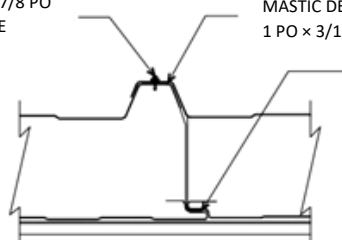

FIGURE 7
12.12 UNE FOIS LES FIXATIONS PRINCIPALES EN PLACE, LA NERVURE DE CHEVAUCHEMENT DOIT ÊTRE FIXÉE À L'AIDE DE FIXATIONS DE CHEVAUCHEMENT AUTOPERCEUSE STITCH TEK DE 14 x 7/8 PO ET SA FINITION DOIT S'AGENCER AVEC LE PANNEAU (VOIR LA FIGURE 7 CI-DESSOUS).